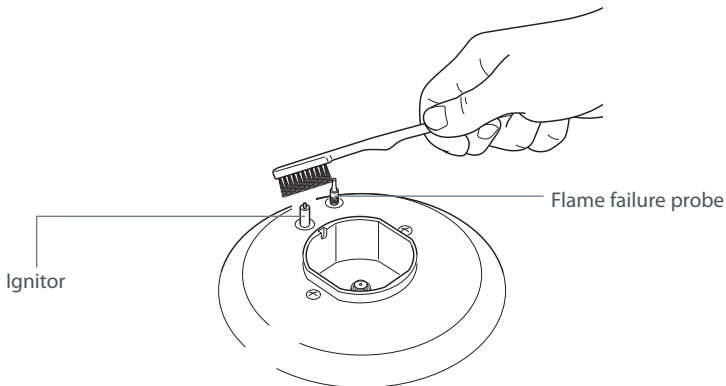

Fig.13 Cleaning the ignitor and probe
These models have a flame failure probe as well as the ignitor (see Fig 13).
- The ignitors are sparking. If the ignitors are not sparking, they may be dirty or wet. Clean them with a toothbrush and methylated spirits, as shown in Fig. 13.
- Both the ignitor and probe must be very carefully cleaned using a toothbrush and methylated spirits (Fig.13).